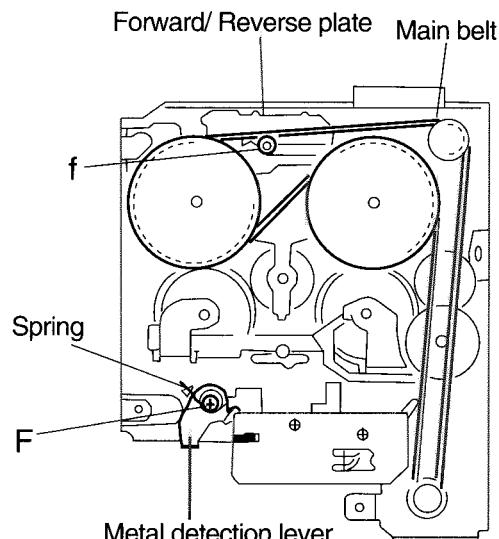

Fig. 8
### ■ Removing the Head Plate ( See Fig. 8,9 )
7. Remove the two screws F fixing the metal detection lever and removal spring as shown in Fig. 8.